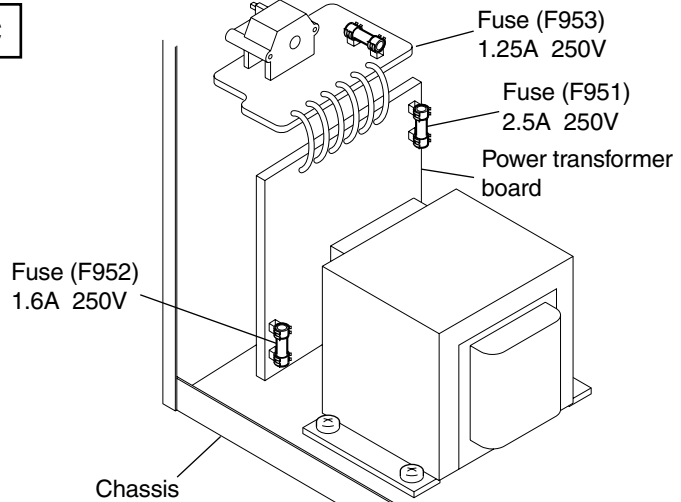
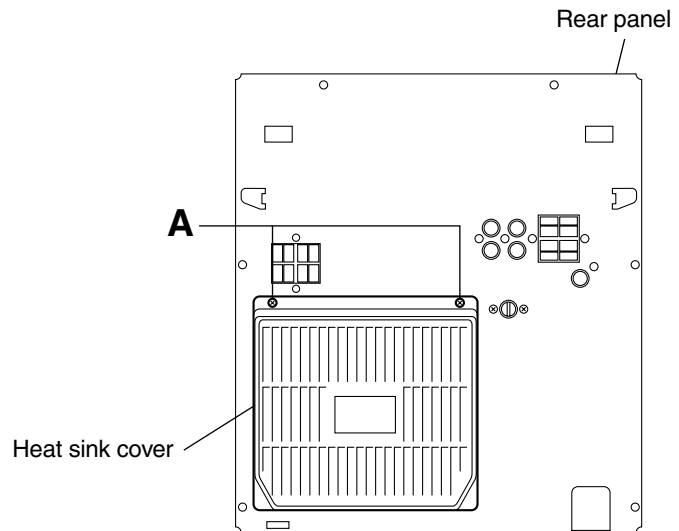

Fig.1
Fig.2
3. Solder is put up before the card wire is removed from connector CN601 on the main board as shown in Fig.1 and Fig. 2.
■ Replacing the fuses (See Fig.1)
■ Replacing the power IC (See Fig.2 to 4)